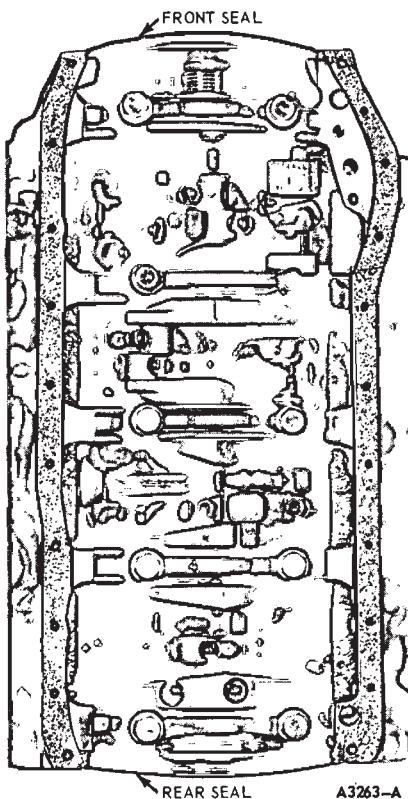

FIG. 43—Oil Pan Gasket and Seals Installed
1. Clean the gasket surfaces of the block and oil pan. The oil pan has a two-piece gasket. Coat the block surface and the oil pan gasket with sealer. Position the oil pan gaskets on the cylinder block (Fig. 43).
3. Position the oil pan rear seal on the rear main bearing cap (Fig. 43). Be sure the tabs on the seal are over the oil pan gasket.
3. Coat the block surface and the oil pan gasket with sealer. Position the oil pan gaskets on the cylinder block (Fig. 43).
5. Position the oil pan rear seal on the rear main bearing cap (Fig. 43). Be sure the tabs on the seal are over the oil pan gasket.